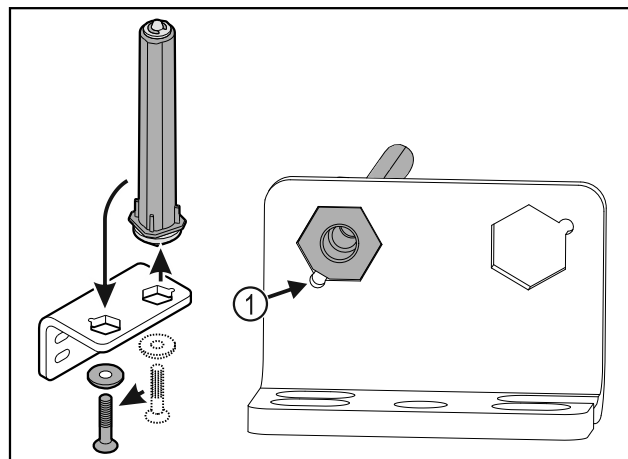

Fig. 32
- Make sure the pin chamfer Fig. 32 (1) faces the round hole when you put it in.